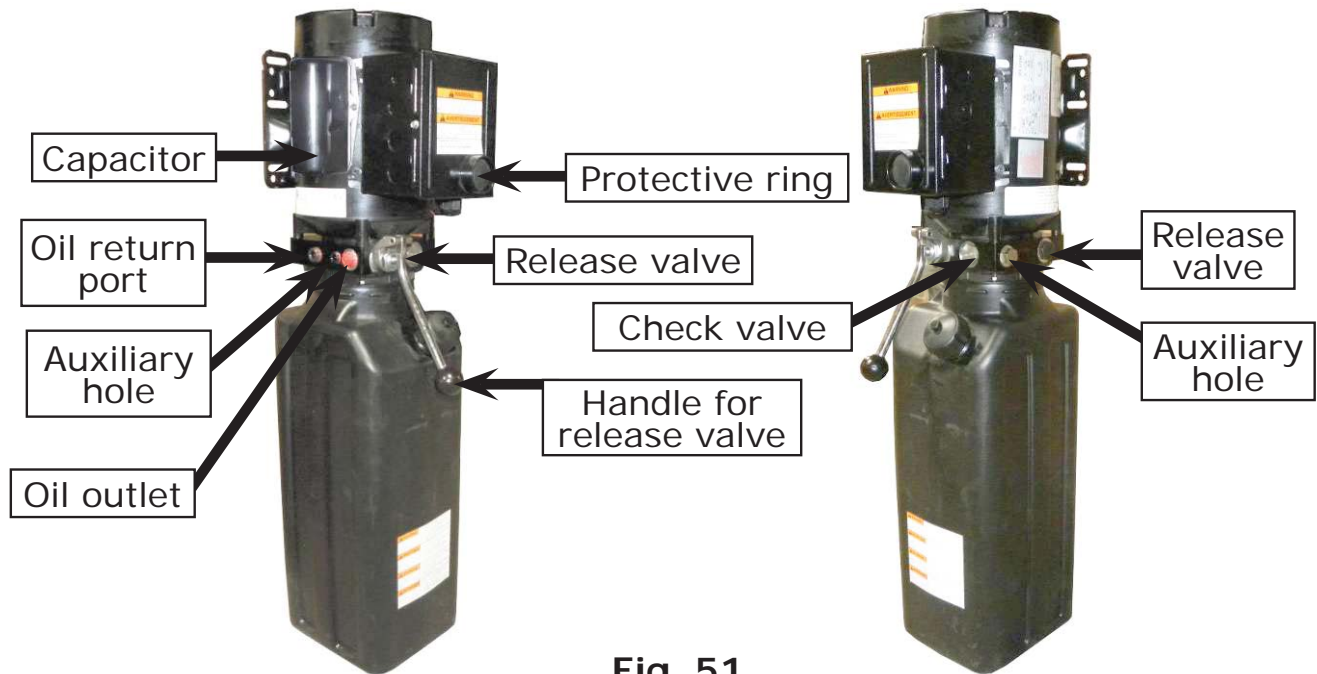

Fig. 51
1. SPX manual power unit, 220V/60HZ, Single phase (See Fig. 51).